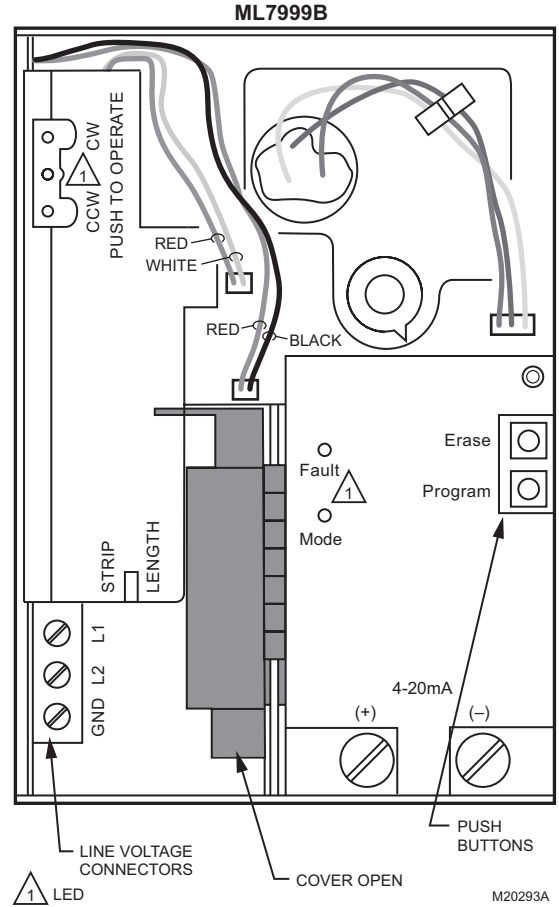

Fig. 6. Interior layout of ML7999B.
3. Wire the low-voltage circuit to the 4-20 mA controller. See Fig. 6 for typical wiring connections.
5. Wire the line-voltage circuit. See Fig. 6 for typical wiring connections.